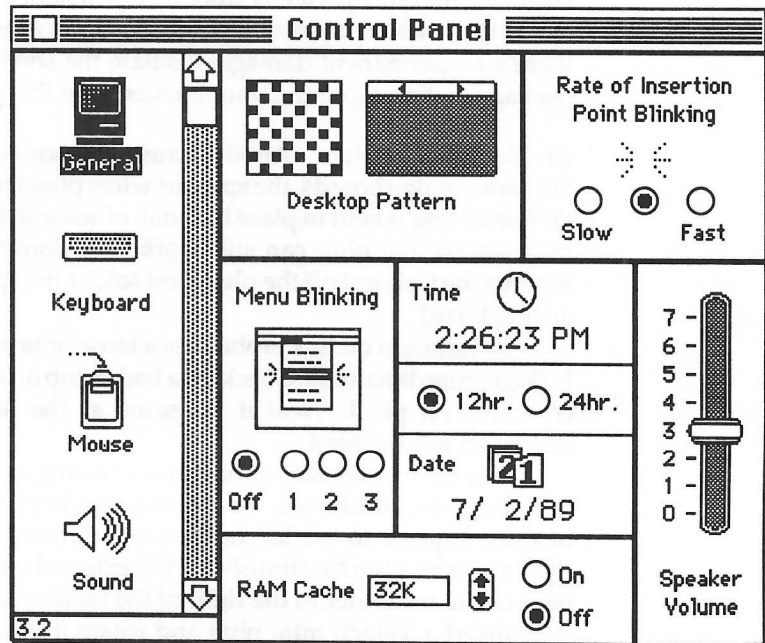

Figure 8-2 Macintosh Control Panel Version 3.02.
When the sound on a 128K to Macintosh Plus suddenly stops working, the first thing to do is to pull out the Control Panel Desk Accessory (DA) and check the volume setting as shown in Figure 8-2. If there's no Control Panel listed under the Apple menu, shut down, and restart your Mac with an official System disk. Bring out the Control Panel DA, position the mouse pointer over the volume knob, click the mouse button and raise the volume to level 3 or more. When you release the mouse button, the Mac should beep. The louder you raise the volume, the louder it should beep. If it does, that proves the amplifier circuit is fine.